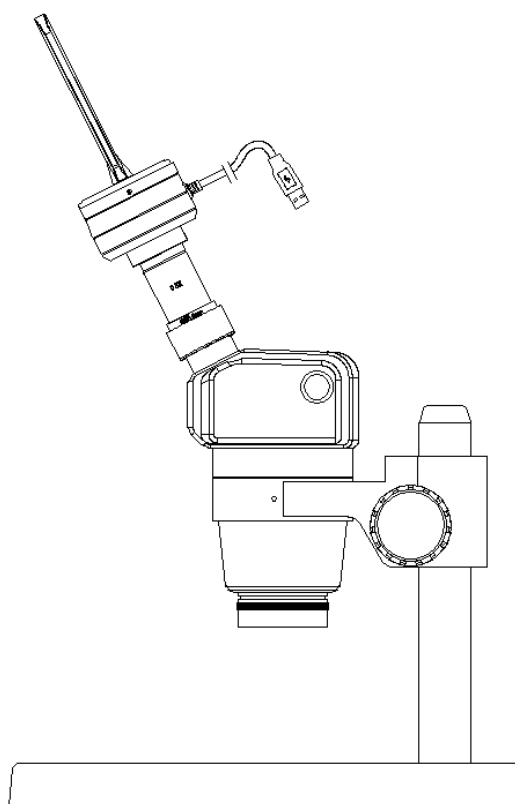

Fig. 5
- (3) Insert other end of camera adapter into trinocular port or into eyetube (Fig. 5. Remove eyepiece first).